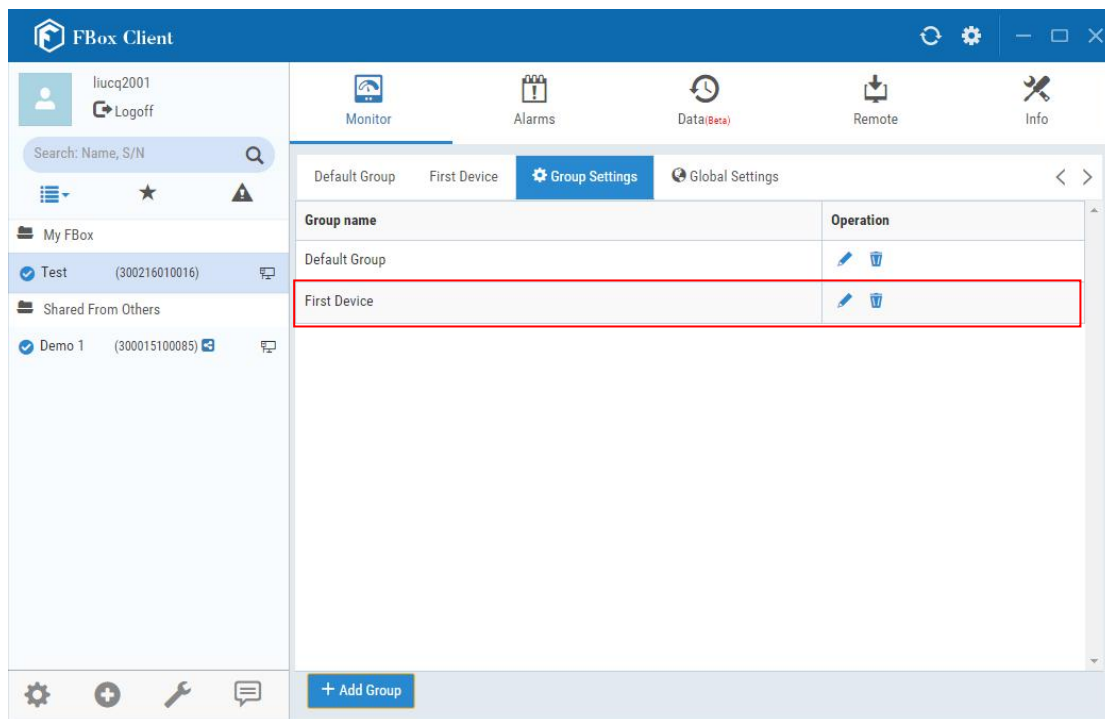

Fig. 4.6-5 View the added group
(5) After you input the name for the new group, click the "OK" button to confirm. The new group will be displayed in the "Group Settings" subtab page, as shown in Fig. 4.6-5.